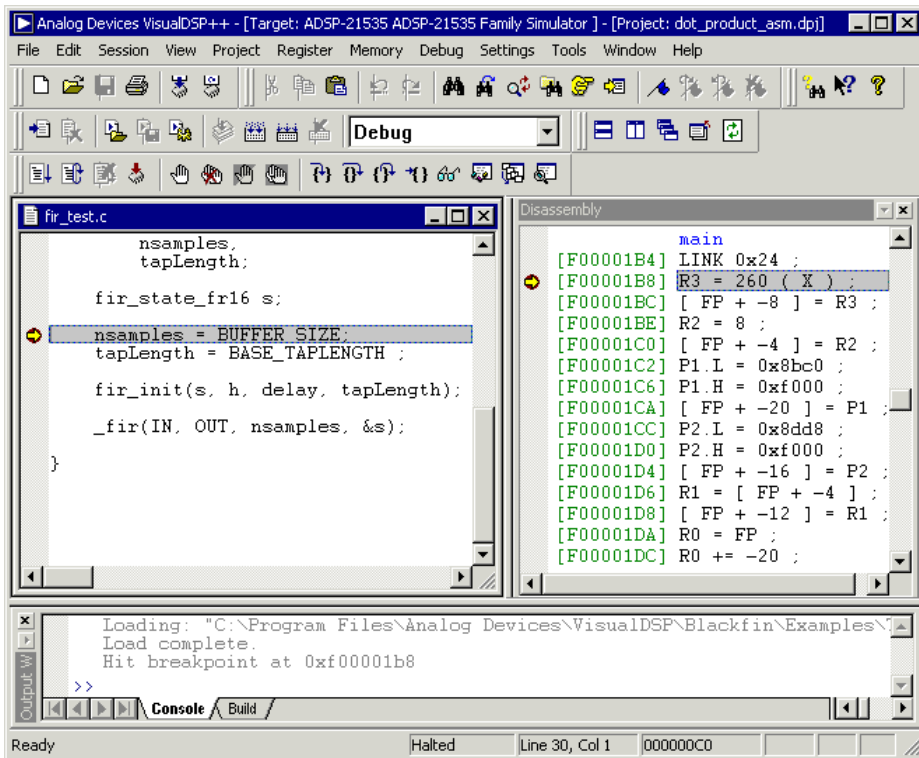

Figure 2-24. Loading the FIR Program
- b. Double-click `FIR.DXE` to load the program in an editor window (Figure 2-24 on page 2-35).